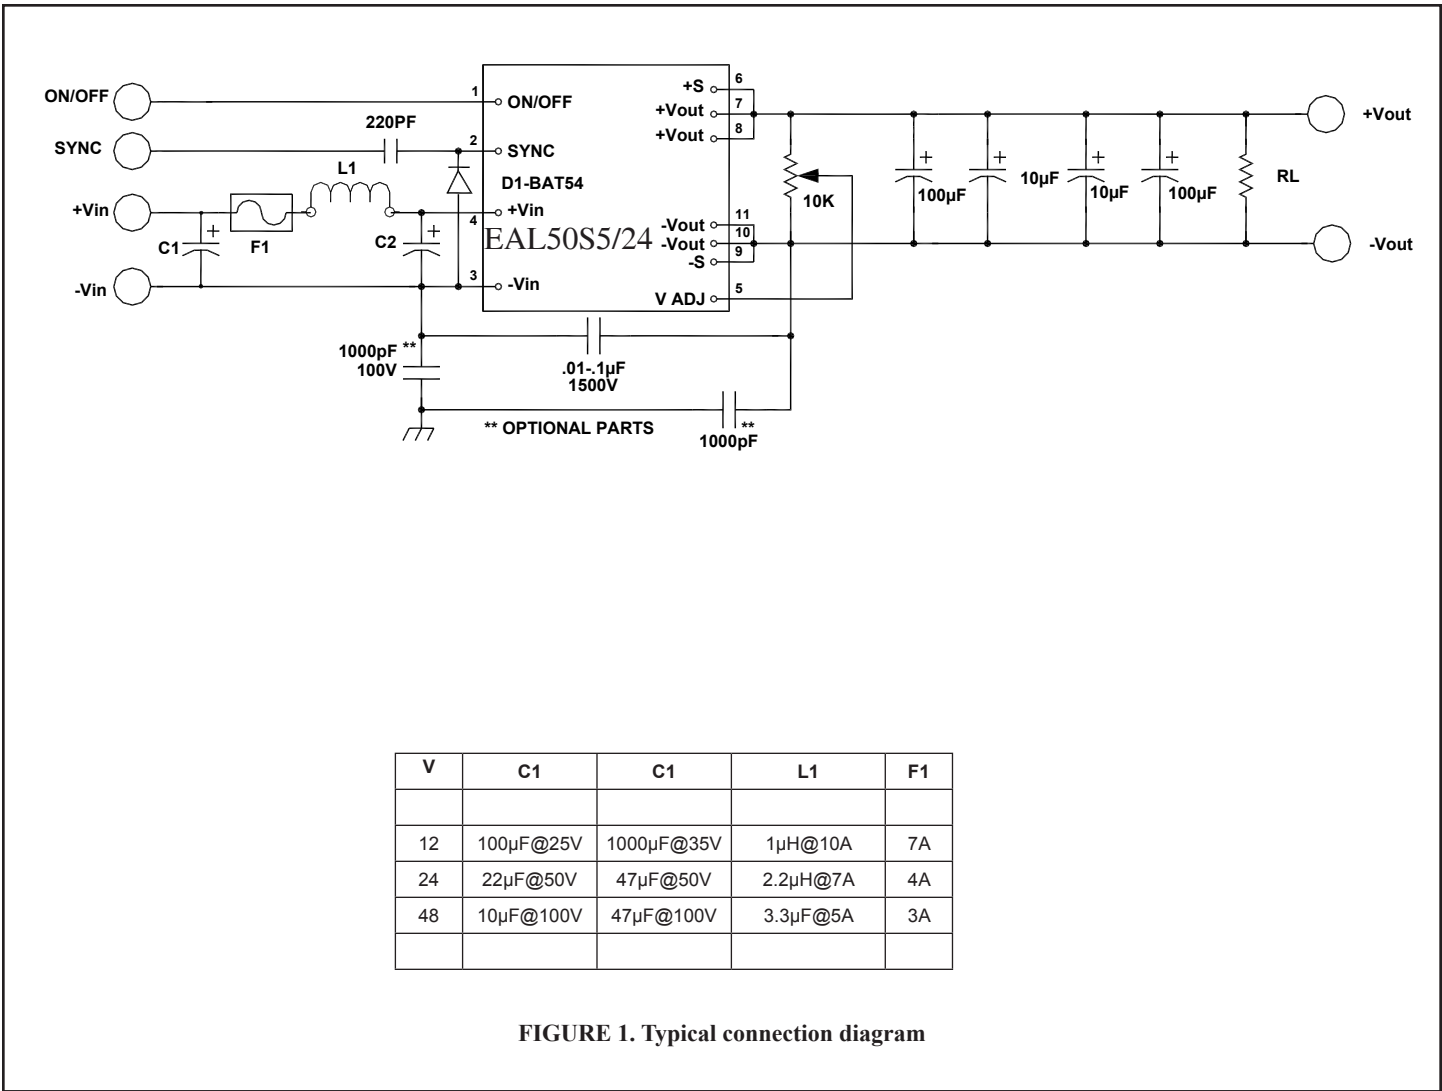

FIGURE 1. Typical connection diagram
- 1: Measured with C1=50µF (See Fig 1)
5. Output ripple is measured with two tantalum 220µF@10V and 10µF@25V ceramics in parallel on the output as shown in Figure 1.
a signal Schotky diode with the cathode connected to the SYNC pin and the anode to $-V_{IN}$ (See Figure 1). AC coupling reduces the power required for driving multiple converters and allows for continuous operation of the other synchronized converters in case the driving signal is missing or a short circuit develops at one of the sync inputs.